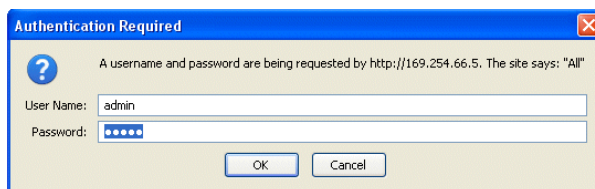

Figure 6. Login Screen
3. Enter the radio's IP address in a web browser window, just as you would enter a website address. When the login screen appears (Figure 6), enter the User Name and Password for the radio. The default entries for a new radio are both **admin**. Click **OK**.